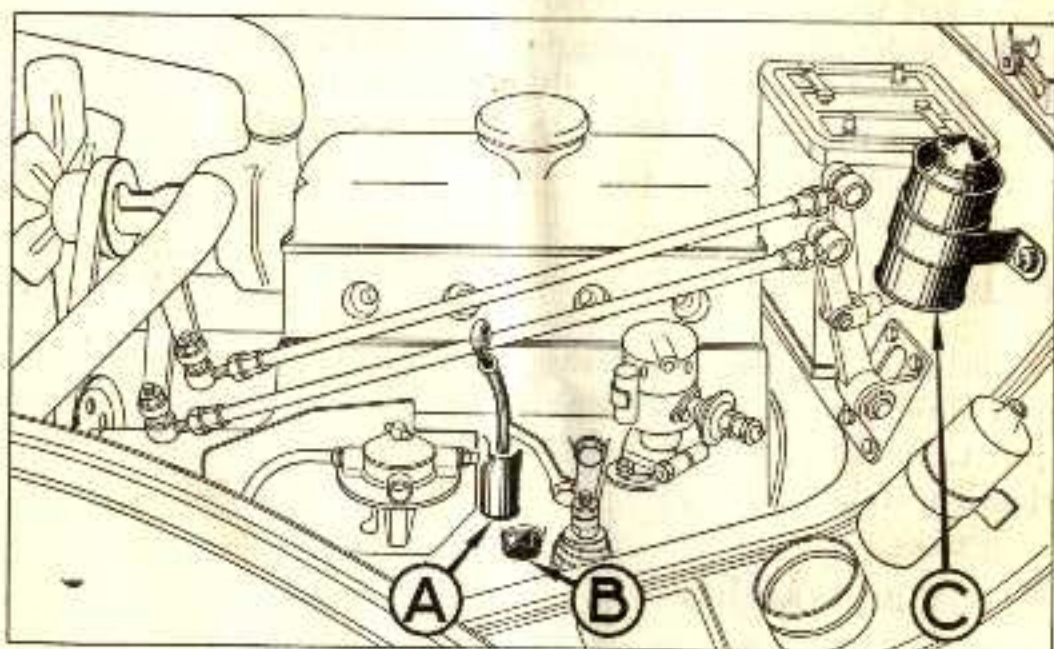

Fig. 1. — OIL DIPSTICK (A). — CRANKCASE DRAIN PLUG (B).
**Oil.**—Should come to the upper end of the cutout on the oil dipstick A (fig. 1), and should not be allowed to drop below the lower end of the cutout. Check the level when the engine is cold, and with the car on a horizontal surface.
B (fig. 1, page 5), for the crankcase.
Every month check the level of the special brake-fluid in its reservoir C (fig. 1); it should not fall below the "normal" mark. Never use any liquid other than the Special Brake Fluid.